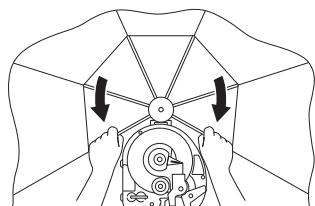

Fig. 49
- (2) Open the guard fully by pulling the arms as shown below until a click is heard. (Fig. 49)